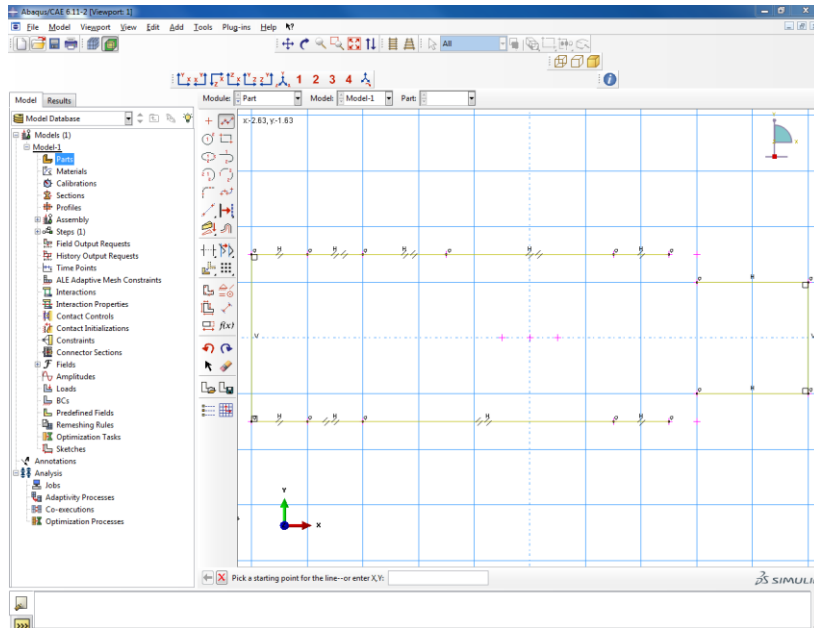

Figure 5. Geometry Lines
- Finally, create a line between points **1 & 18**. Press **Esc** on the computer keyboard to exit the **Create Lines: Connected** tool. At this point of the sketch the geometry should look similar to that in Figure 5.